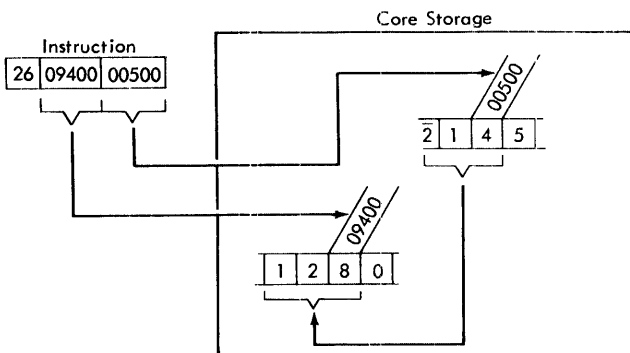

Figure 34. Transmit Field – Data Flow
In Figure 34, the data (214) in the field defined by the Q address (00500) replaces the data (128) in the field defined by the P address (09400). The data at the Q address is not changed.